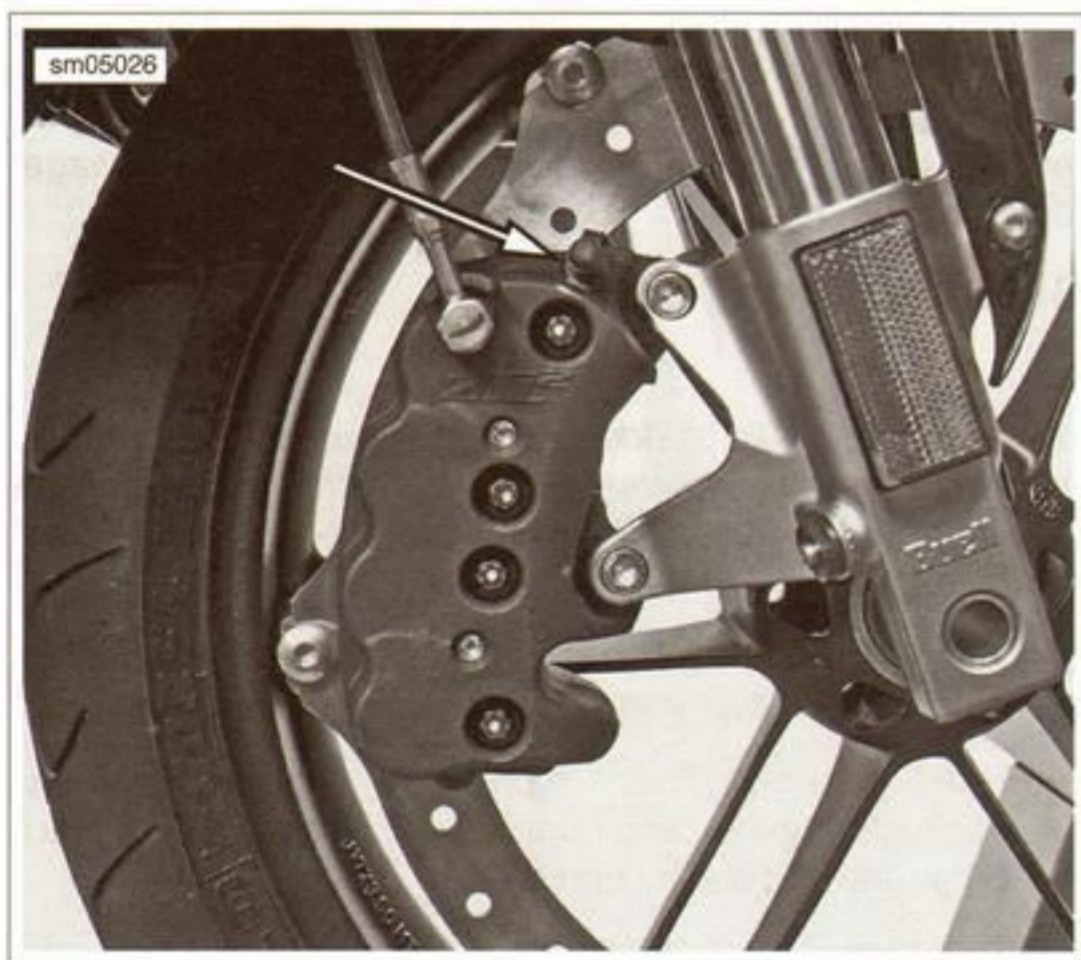

Figure 1-21. Front Caliper Bleeder Valve
2. See Figure 1-21. Remove protective cap and install end of plastic tubing over front caliper bleeder valve; place other end in a clean container.